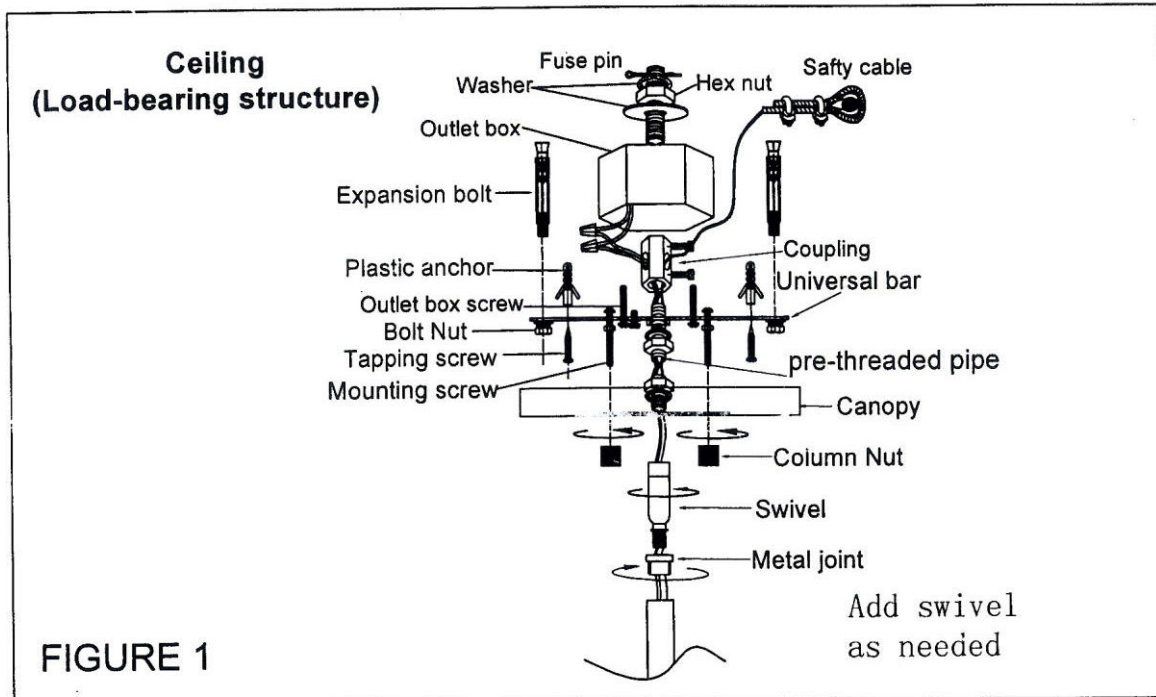
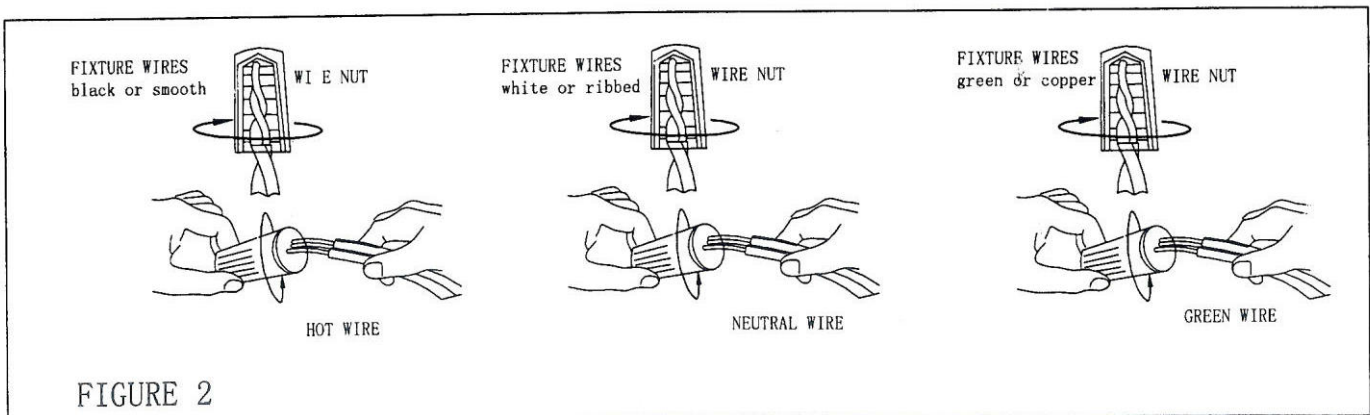

FIGURE 1
FIGURE 2
3. With the Pre-Threaded Pipe properly situated, locate the Coupling (N) and proceed to thread onto the end of the Pre-Threaded Pipe protruding into the outlet box. Thread the Coupling (N) onto the pipe until tight.
4. Remove the Column Nuts (B) under the Canopy from the Mounting Screws (D), and take out the Universal Bar (C). Attach the Universal Bar (C) to the Outlet Box using two Outlet Box Screws (G). (See Figure 1)
5. Insert the shorter end of the Pre-Threaded Pipe into the pre-drilled hole in the Universal Bar (C) and secure by turning in a clockwise direction.
You need to take off the metal joint (H) and screw swivel (I) on the Canopy as needed, and the end of swivel to screw on metal joint with one end of the metal tube #4, the other end of swivel screw with the shorter pre-threaded pipe tight. (See Figure 1)
8. Install the ground wire in the Universal Bar (C) with the supplied Green Ground Screw (E).
9. Place the neutral wire, ribbed wire evenly against the ribbed wire from the Outlet Box and place the hot wire, smooth wire evenly against the smooth wire from the Outlet Box. (Connecting the Wires-See Figure 2)
10. After the wires are connected, tuck them carefully inside the Outlet Box. attach the Canopy (A) to the Mounting Screws (D) and secure with two Ball Nuts (B). (See Figure 1)
Installation (see Figure 1)
Wiring (see Figure 2)